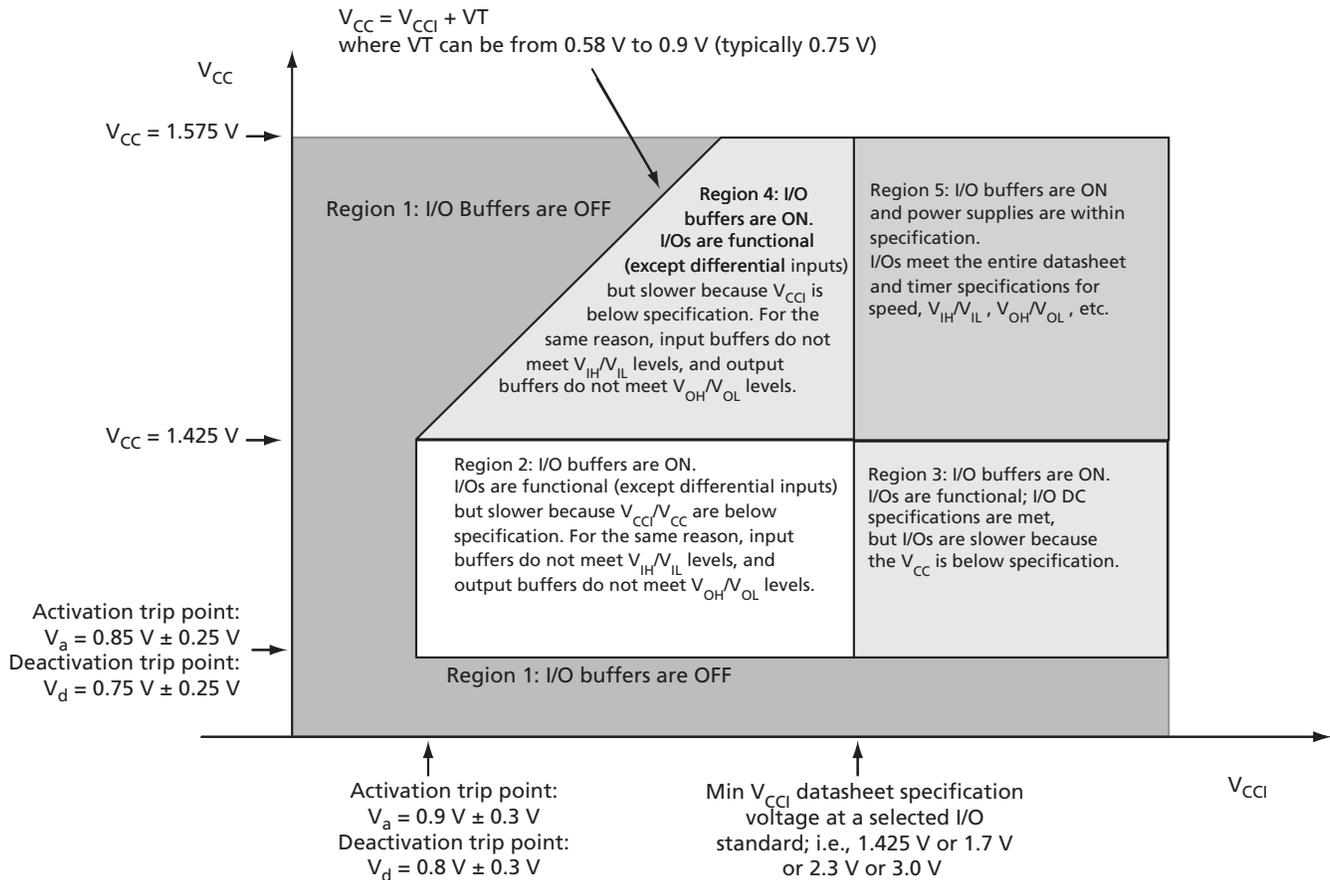

Figure 3-1 • I/O State as a Function of  $V_{CCI}$  and  $V_{CC}$  Voltage Levels
Sophisticated power-up management circuitry is designed into every IGLOO device. These circuits ensure easy transition from the powered-off state to the powered-up state of the device. The many different supplies can power up in any sequence with minimized current spikes or surges. In addition, the I/O will be in a known state through the power-up sequence. The basic principle is shown in Figure 3-1.
1.  $V_{CC}$  and  $V_{CCI}$  are above the minimum specified trip points (Figure 3-1).